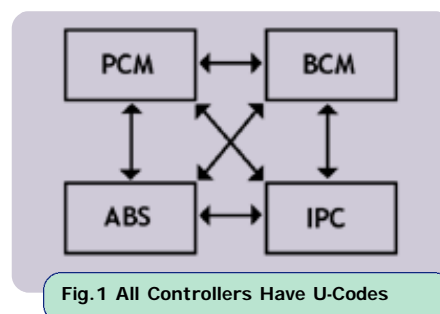

Fig. 1 All Controllers Have U-Codes
1. Most or all controllers report that Yes, they have DTCs stored and are predominately U-Codes. See Table 1 and Figure 1.
D. The U-Codes are pointing to a number of other controllers, not just one other controller. See Table 1 and Figure 1 for an example of this.